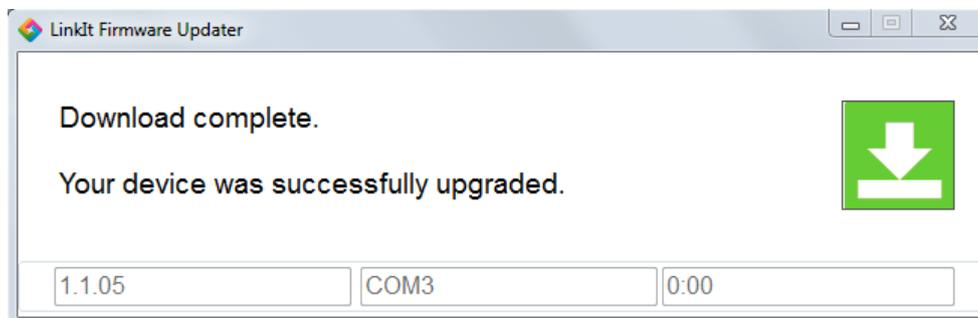

Figure 26 The firmware update is complete
- 6) After a moment LinkIt ONE Firmware Updater will confirm that the firmware has been updated, see Figure 26.